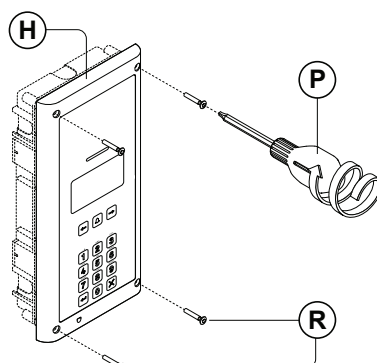

Fig. 69
10. After the system has been tested and is working correctly, move back the module support frame (H) carefully and then fix it to the flush box (C) using the screwdriver provided (P) (using the torx end) and the torx pin security screws provided (R), as shown in **Fig.69**. **Note: do not over tighten the screws more than is necessary.**